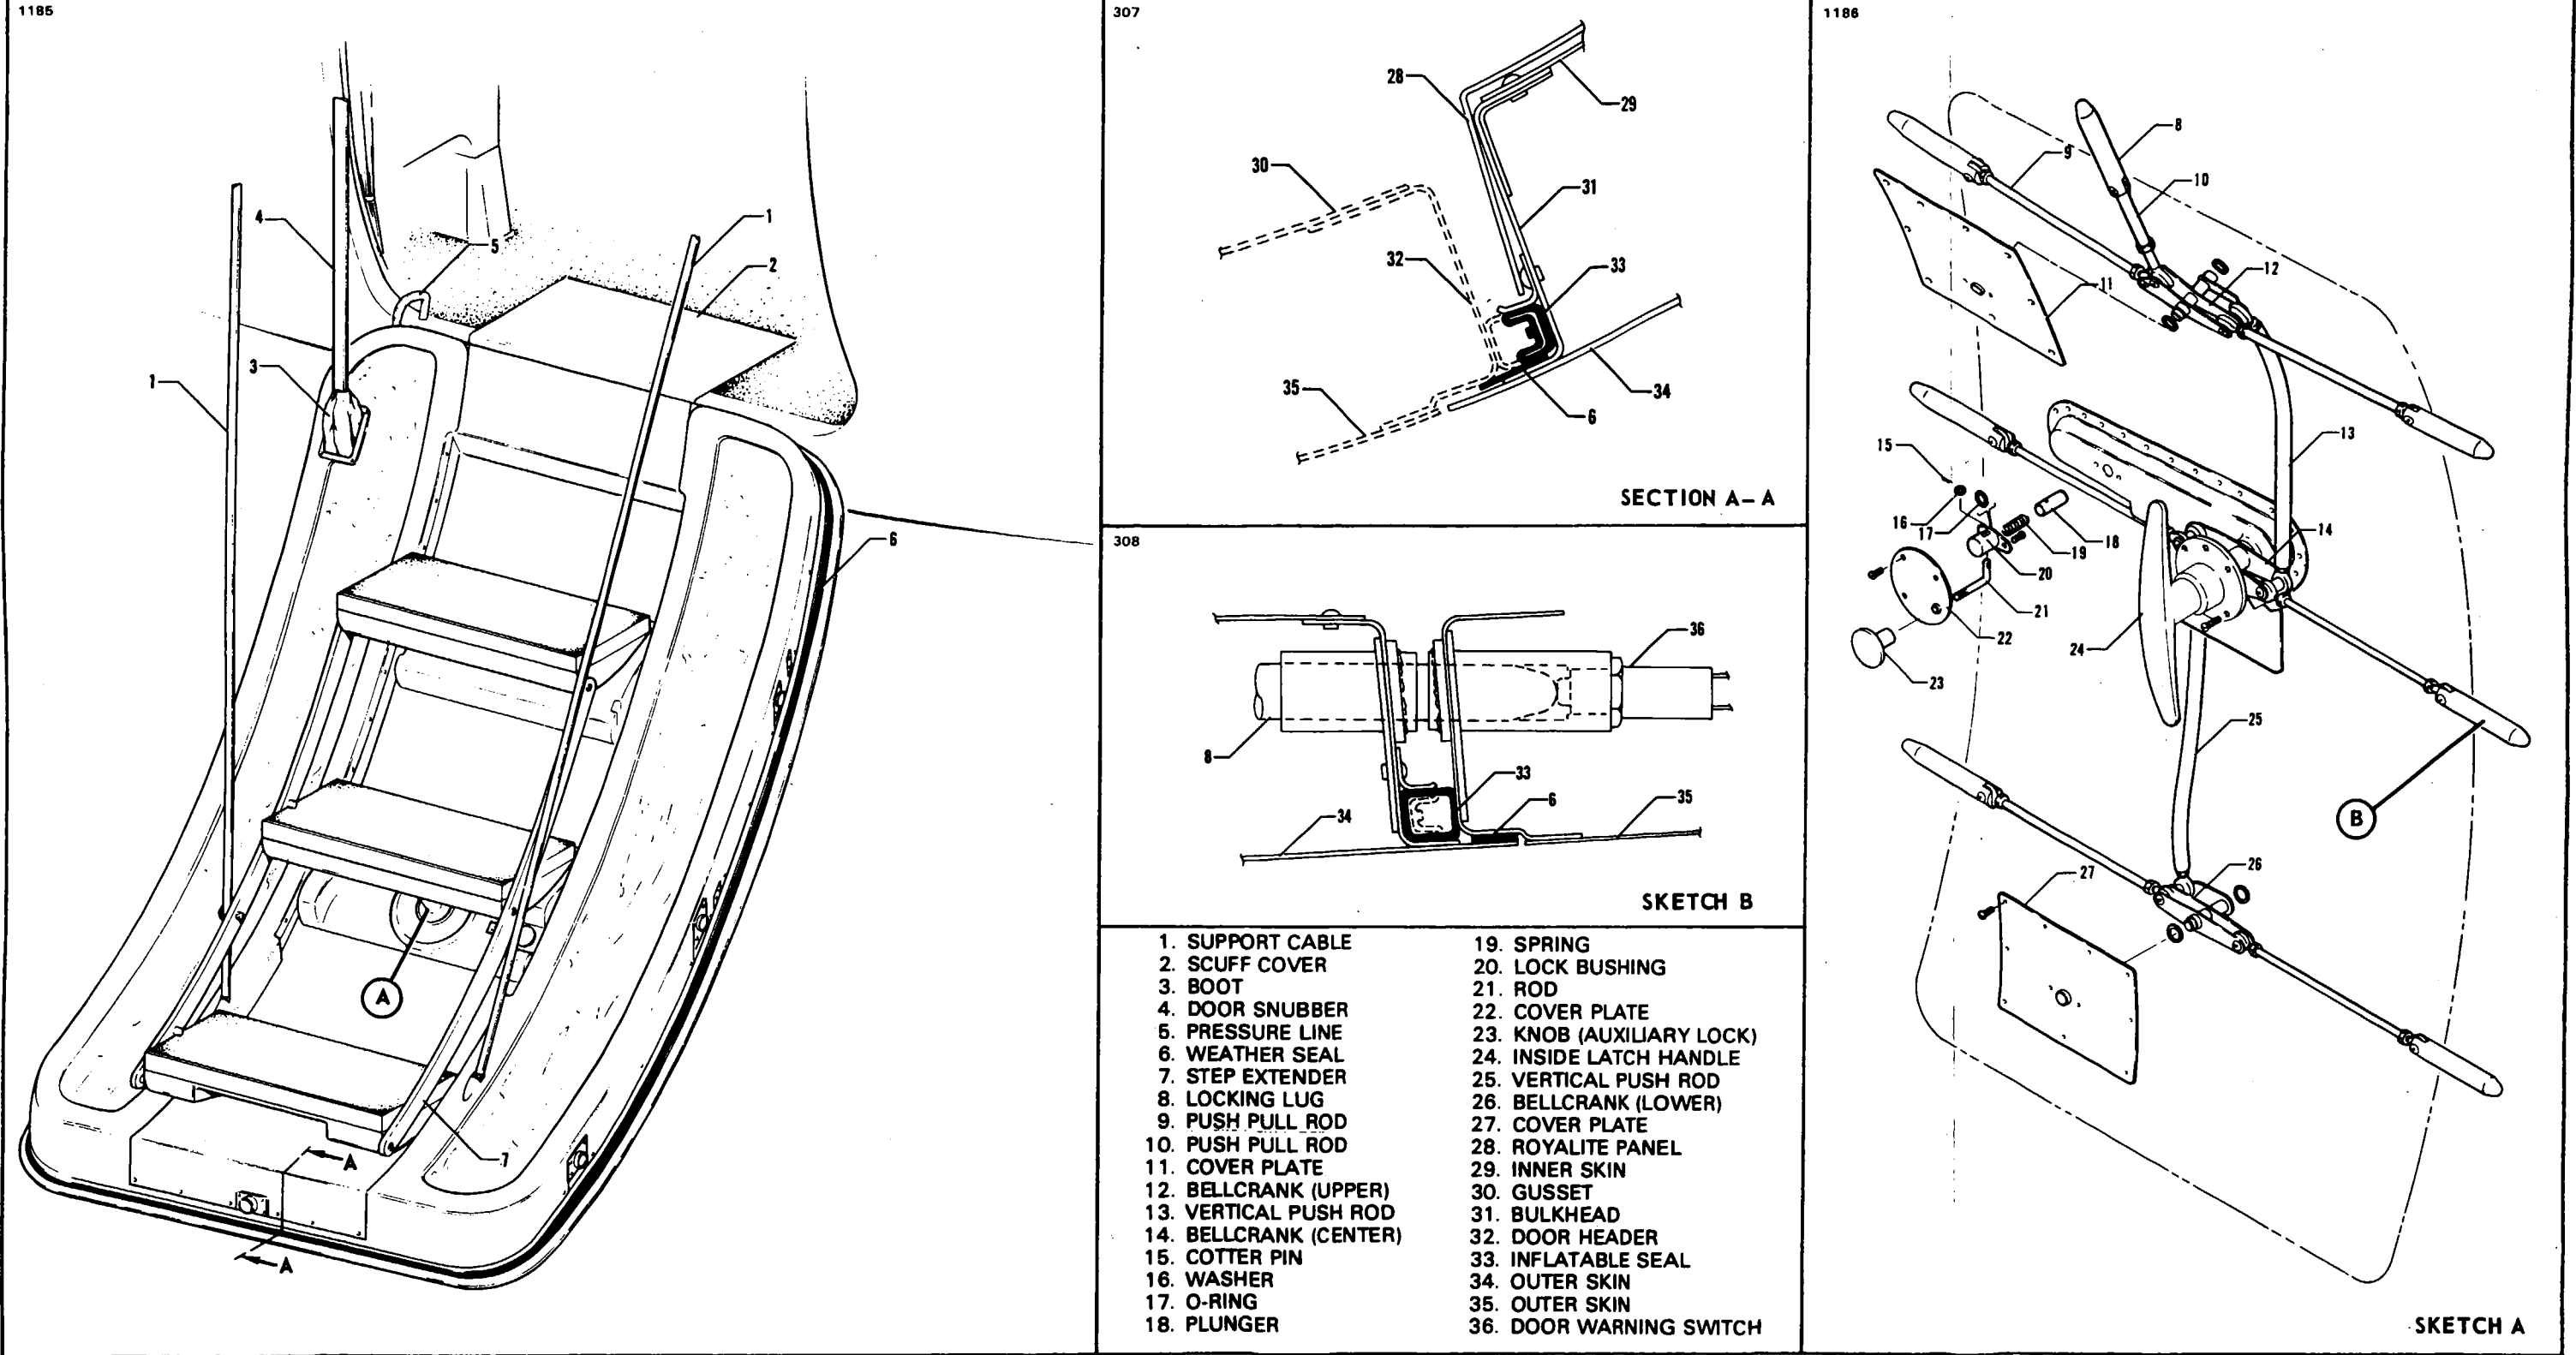

Figure 4-9. Cabin Entrance Door
4-57. REMOVAL OF CABIN ENTRANCE DOOR. (Refer to Figure 4-9.)
4-59. INSTALLATION OF CABIN ENTRANCE DOOR. (Refer to Figure 4-9.)
4-61. REMOVAL OF LATCHING MECHANISMS. (Refer to Figure 4-9.)
4-62. INSTALLATION OF LATCHING MECHANISM. (Refer to Figure 4-9.)
4. Connect the push rods to the bellcrank and be sure to install the spacers between the vertical and horizontal push rods as shown in Figure 4-9. Secure with bolts and locknuts.
4-63. ADJUSTMENT OF LATCHING MECHANISM. (Refer to Figure 4-9.)
4-65. REMOVAL OF AUXILIARY LOCK. (Refer to Figure 4-9.)
4-66. INSTALLATION OF AUXILIARY LOCK. (Refer to Figure 4-9.)
4-67. REMOVAL OF HANDLE. (INSIDE.) (Refer to Figure 4-9.)
4-72. REMOVAL OF STEPS. (Refer to Figure 4-9.) With the cabin entrance door opened and the steps extended, proceed to remove the steps in accordance with the following instructions:
4-73. INSTALLATION OF STEPS. (Refer to Figure 4-9.)